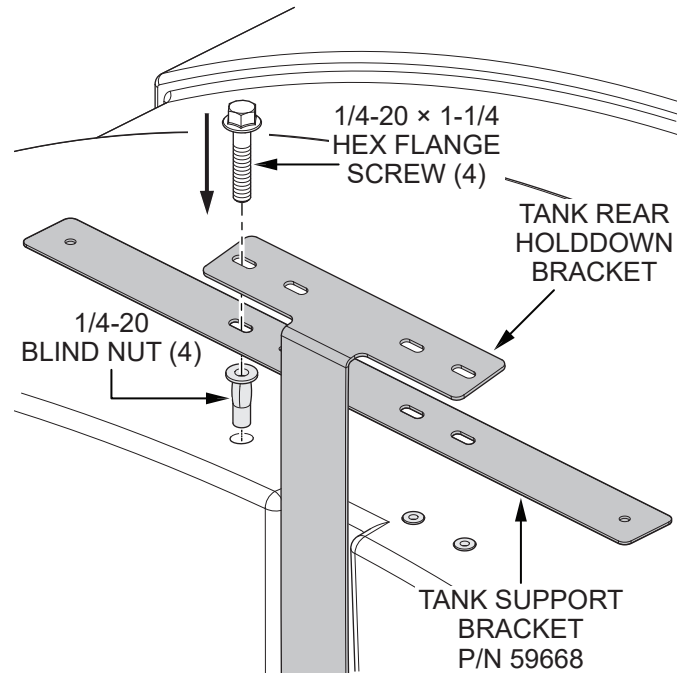

Figure 8. Install Tank Support Bracket (Rear Of Tank)
6. Place a **tank support bracket (P/N 59668)** onto the rear end of the water tank as shown in Figure 8.
- The tank rear holddown bracket should be on top of the tank support bracket as shown in Figure 8.
7. Use the **four 1/4-20 × 1-1/4 hex flange screws** and **four 1/4-20 blind nuts** from step 5 to secure the two brackets to the water tank (Figure 8).